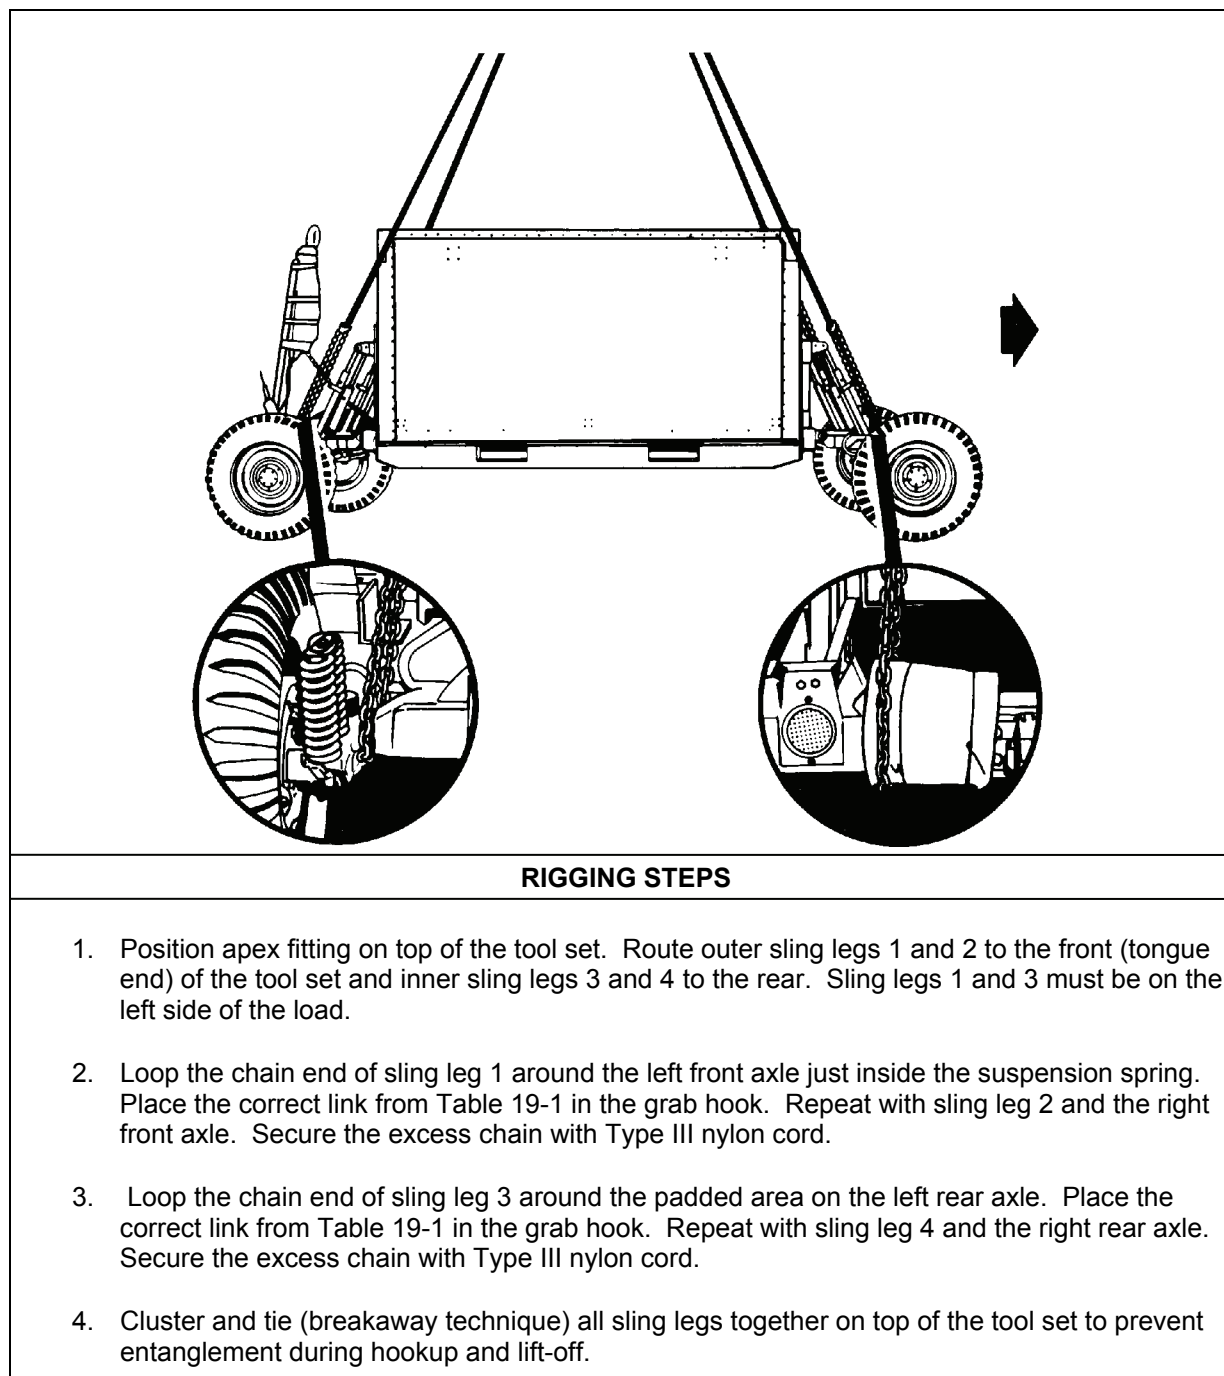

Figure 19-1. Tool Set, Aviation Maintenance, SE 1, Airmobile
- **Rigging.** Rig the load according to the steps in Figure 19-1.